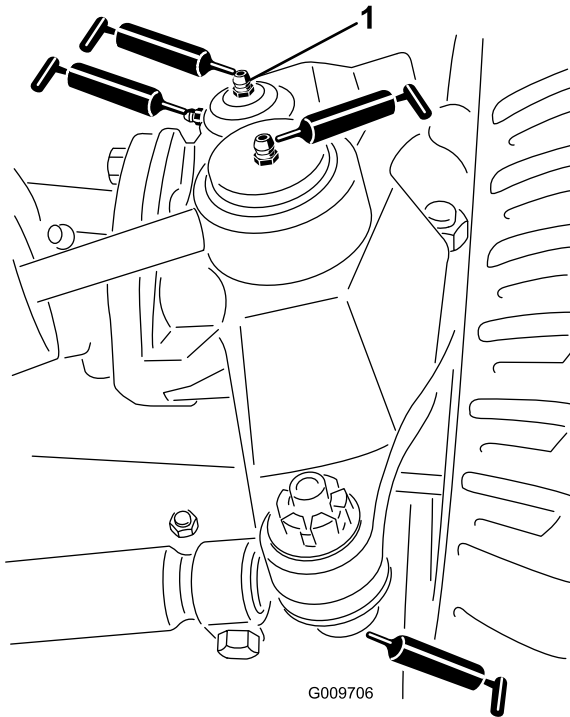

Figure 21
- Steering cylinder ball joints (2) (Figure 21)
- Tie rod ball joints (2) (Figure 21)
- King pin bushings (2) (Figure 21). **The top fitting on the king pin should only be lubricated annually (2 pumps).**